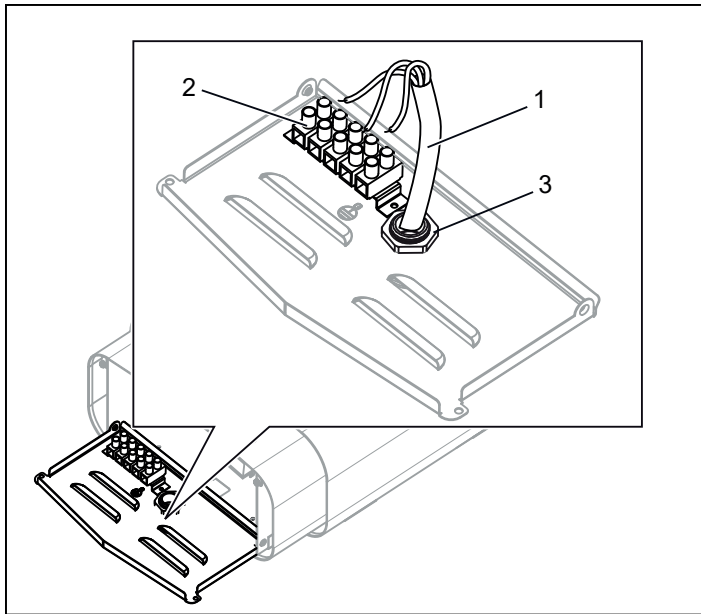
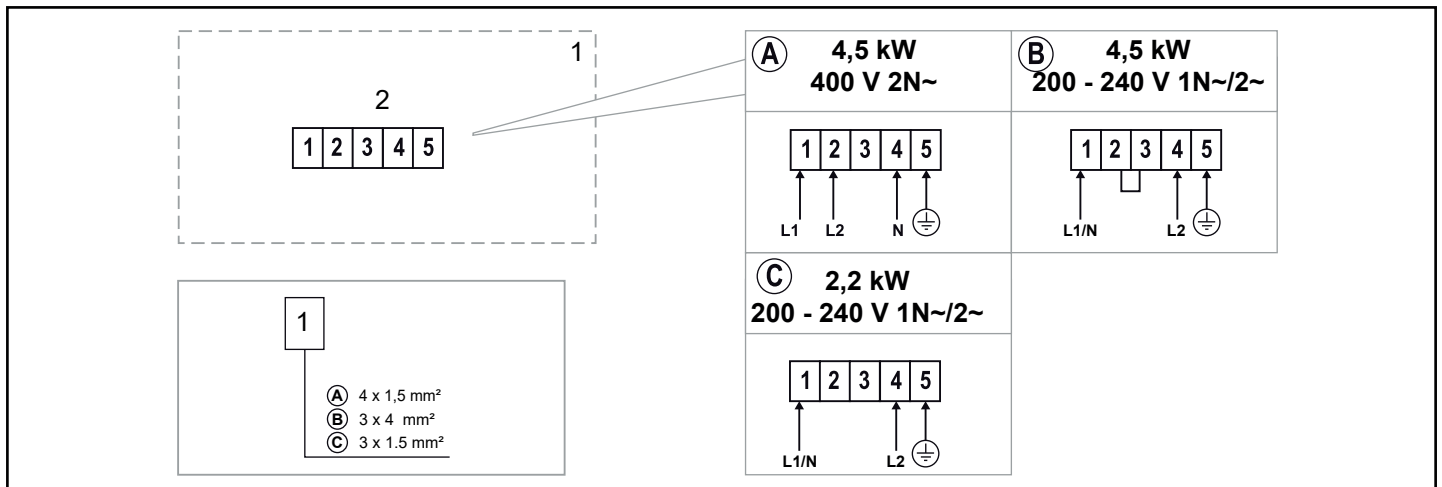

Figure 6: Connection
Figure 15: Wiring diagram
3. Attach strain relief devices (3) and connect the electrical cable (1) to the terminal (2) (see Figure 6) according to the wiring diagram (see the Connection/wiring diagram section, figure 15).